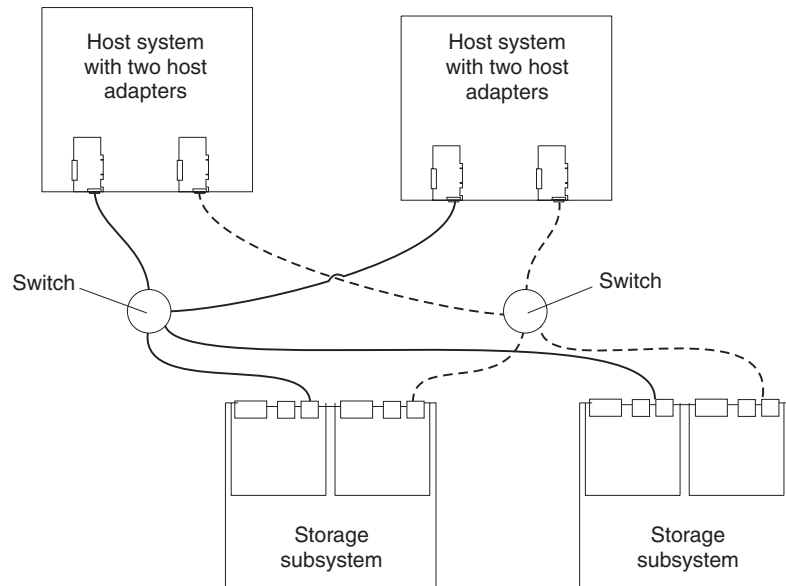

Figure 58. Example of two storage subsystems in a dual SAN environment
- Two storage subsystems in a dual SAN fabric configuration, as shown in Figure 58 on page 85
In Figure 58 on page 85, the Fibre Channel switches are not connected together. Each switch forms its own SAN fabric.